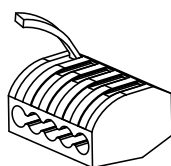
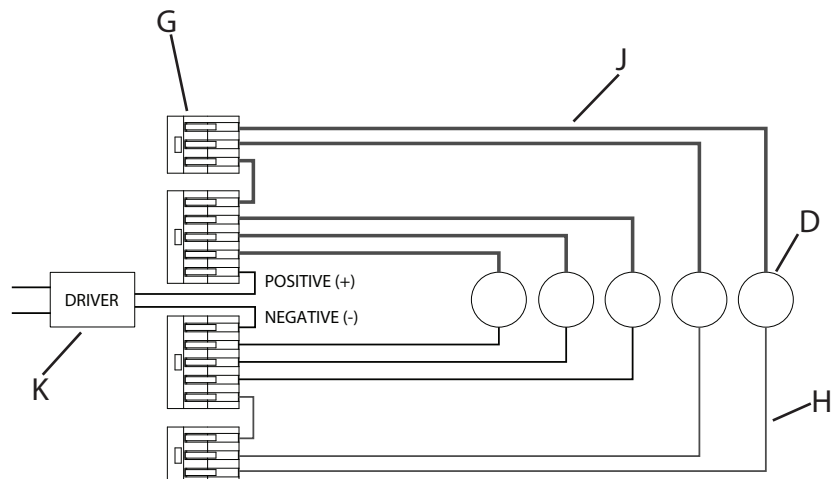

Fig. 1
Fig. 2
1. Shut off power to the outlet box (A).
3. Determine the height at which each pendant is to be hung. Use the screwdriver (B) to loosen the set screw (C). Feed the power cords (D) through the bushings (E) on the canopy (F). Adjust the cord (D) to the desired length. Tighten the set screw to set.
4. Connect the fixture wires to the lever nuts (G) by pulling up on the lever for an empty slot (Fig. 1), inserting the wire, and pushing the lever back down to lock. The inner stranded conductor (H) and the outer braided conductor (J) on each cord (D) must be connected to separate lever nuts, as shown (Fig. 2). Reserve extra cords (D) and lever nuts (G) in the canopy (F). If shortening of the cords is necessary refer to Appendix A.
5. Attach cross bar (L) to the outlet box (A), secure with outlet box screws (M).
- a. Connect the LED driver's (K) live wire (black) to the live outlet box wire.
7. Attach canopy (F) to nipple (N), secure with washer and finial (P).